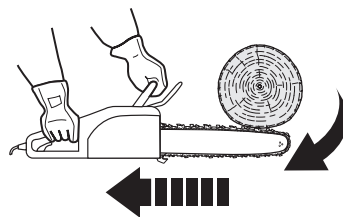

Fig. 27
- > Pinching of the saw chain (4) along the top of the guide bar (5) may push the guide bar rapidly back toward the operator (Fig. 27).